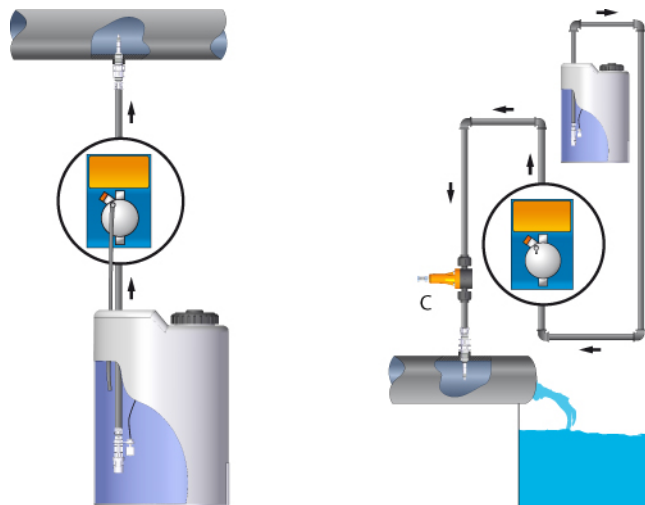
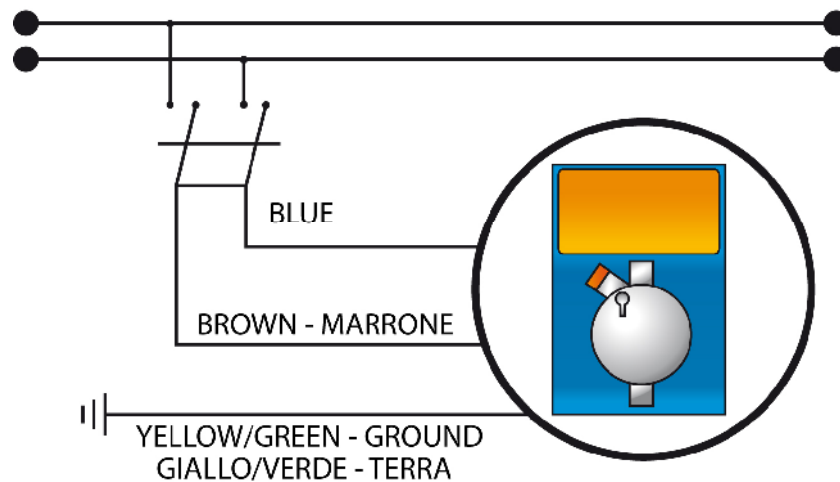

Fig.2
Fig.6
- Make sure the pump is electrically deactivated (both poles) by disconnecting the conductors from the power supply using the omnipolar switch which must have a minimum distance of 3mm between its contacts (Fig.6).
Locate the pump as shown in fig. 2 taking into account that it can be located over or under the liquid level within a maximum difference of 2 meters. The injection point must always be located higher than the liquid to be dosed.
If the plant being treated operates at atmospheric pressure (free discharge additive) and the additive tank must be placed higher than the injection point (Fig. 2), check periodically that the injection valve is operating correctly, as excessive wear could cause additive injection by liquid loss (even when the plant is not operating). If the problem persists, insert a correctly calibrated **counter pressure valve C** between the dosing pump and the injection point (Fig. 6).
Respect the regulations in force in different countries concerning the electrical installation. If the power cable has no plug, the equipment must be connected to the power supply using an omnipolar switch with a minimum distance of 3 mm. Before accessing the power connection devices, **all power circuits must be interrupted (fig. 6).**